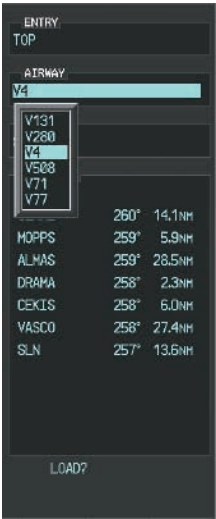

Figure 5-117 List of Available Airways for TOP
- f) Press the **LD AIRWY** Softkey to display the list of available airways for TOP as seen in Figure 5-117.
g) Turn either **FMS** Knob to highlight V4 in the list as seen in Figure 5-117.